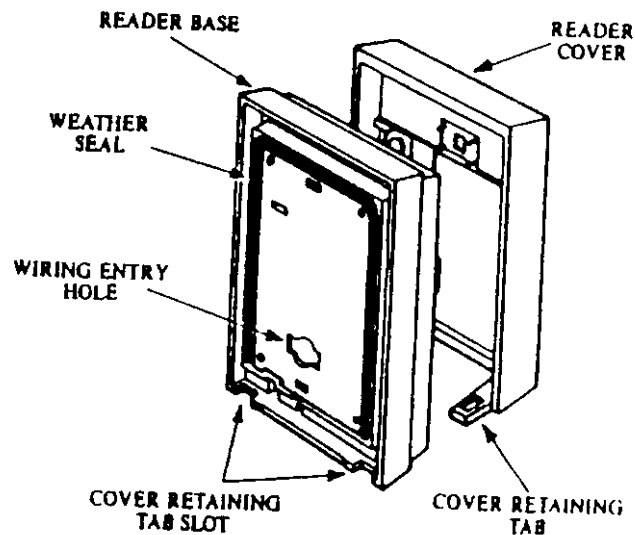

Figure 2
3. For outdoor applications, use a suitable weather-proof back box, or handy box, and install the weather seal (provided) on the back of the readers' base by pushing it securely and evenly into the "U" shaped recess. See figure 2.